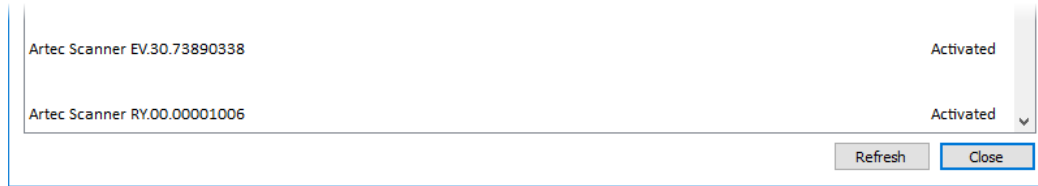

Figure 31: 3D scanner activated
3. Go to Artec Installation Center, click *Refresh* and wait for the new 3D scanner to appear in the hardware box. Click *Activate* (to the right of the serial number) to enable your 3D scanner. The status of the device should change to *Activated*, as Figure 31 shows.